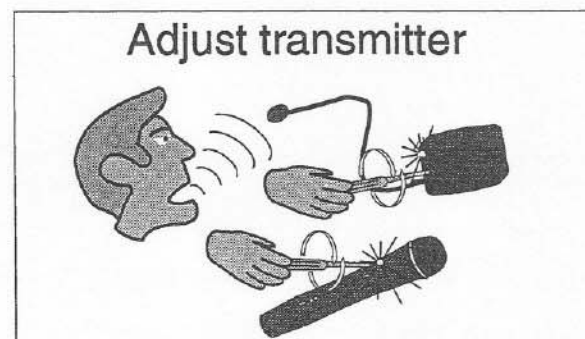

Figure 4 - Setup and adjust the transmitter level as described on the following pages.
5) Adjust the gain if necessary. Gently insert the provided screwdriver or other 3/32 in. (2.5 mm) screwdriver into the hole near the head of the transmitter (see figure 4). Turn **lightly** until the screwdriver tip drops into the slot in the level control. Gently turn counterclockwise until the control stops (the mic output is attenuated but is not "off"). Slowly turn the mic-level control clockwise while listening to the audio; if the audio becomes distorted, turn the mic level control counter-clockwise about 1/8 turn.
6) Adjust the gain if necessary. Gently insert the provided screwdriver or other 3/32 in. (2.5 mm) screwdriver into the hole at the top of the transmitter (see figure 4). Turn **lightly** until the screwdriver tip drops into the slot in the level control. Gently turn counterclockwise until the control stops (the mic output is attenuated but not "off"). Slowly turn the mic-level control clockwise while listening to the audio; if the audio becomes distorted, turn the mic level control counter-clockwise about 1/8 turn.